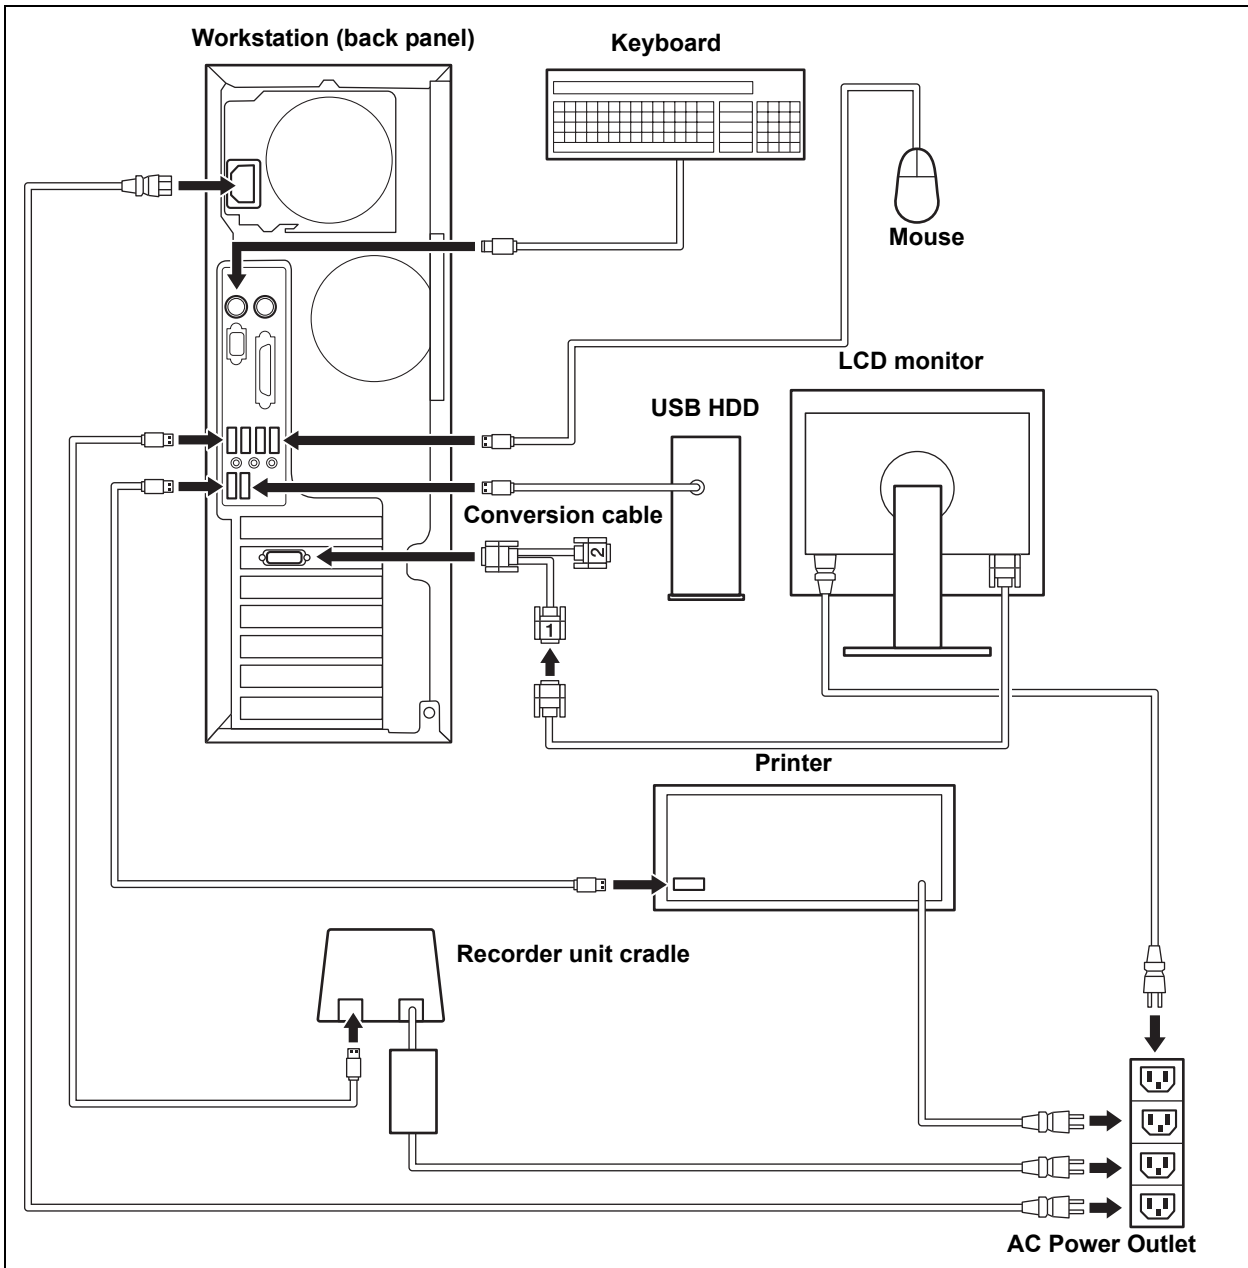

Figure 3.1
2. Connect the keyboard and the mouse to the corresponding cable connector on the back panel of the workstation (see Figure 3.1).